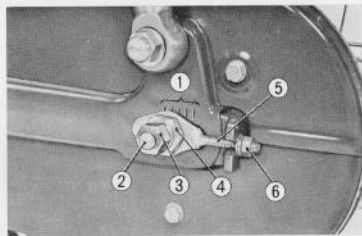

Fig. 5.27 Adjusting the drive chain
- b. Perform adjustment by loosening the axle nut ③ and sleeve nut ④ and then adjust with the adjusting nut. ⑥ (Fig. 5.27)